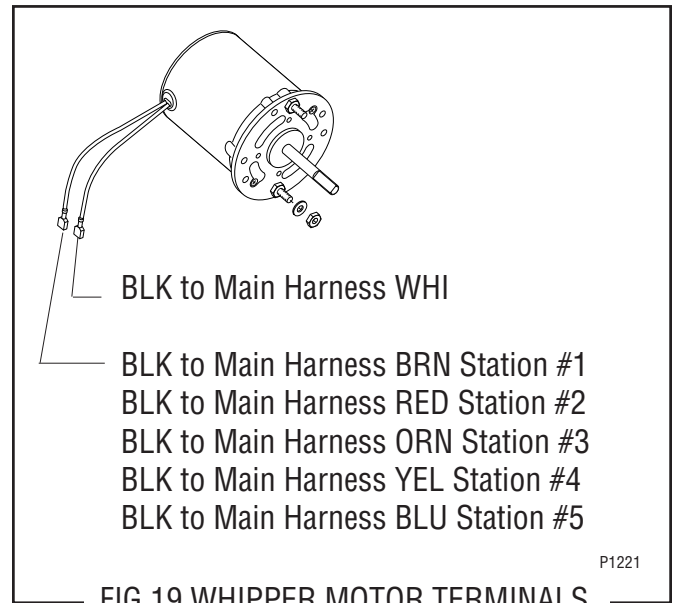

FIG.19 WHIPPER MOTOR TERMINALS
7. Remove the two #4-40 x .25" screws securing the fan baffle (13) to the whipper motor mounting panel and remove fan baffle. Set aside for reassembly.
8. Remove dispense tip (3) and twist the whipper chamber (4) clockwise and pull it off the whipper chamber receptacle (7).
9. Pull the frother (6) off the motor shaft. Notice the flat side on the shaft and the matching flat inside the frother. It is important that these two flats are lined up when reassembling.
10. Slip the O-ring (5) off the whipper chamber receptacle (7).
12. Slide the slinger (9) off of the motor shaft.
13. Remove the two nuts (8) securing whipper chamber receptacle (7) and whipper motor (10) to the front panel.
- NOTE:** To remove the receptacle only rotate clockwise until the receptacle clears the nuts (8) and slide off of the motor shaft.
14. Disconnect the black leads on the motor (10) from the main wiring harness.
16. Install new motor (10) on rear of front panel and secure with two nuts (8) and connect black leads on the motor to the main wiring harness. Refer to Fig. 19 when reconnecting wires
17. Slide slinger (9) onto the motor shaft flush against the front panel.
20. Slide whipper chamber receptacle w/seal (7) and O-ring (5) on to the motor shaft.
21. Rotate the receptacle w/seal (7) counterclockwise until it snaps into place on the motor mounting nuts (8).
22. Push frother (6) onto the motor shaft, making sure the flat in the frother (6) lines up with the flat on the motor shaft.
23. Install whipper chamber (4) on the whipper chamber receptacle (7) by twisting counterclockwise until the tabs on the whipper chamber (4) lock with the tabs on the whipper chamber receptacle (7). Be sure dispense port is pointing down.
24. Install dispense tip (3) into the bottom of the whipper chamber (4).
26. Install vacuum hose (12) on fan baffle (13).